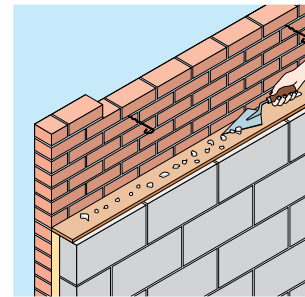
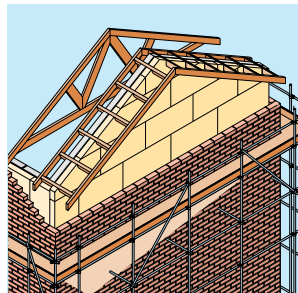

Figure 3
Figure 6
4. Before installation of each course of batts, excess mortar must be removed from the inside face of the leading leaf and mortar droppings cleaned from the exposed edges of the batts. This is made easier by the use of a cavity board (Figure 3). This sequence should be maintained progressively up to wallplate (or cavity tray) level. It is important that the insulation is carried to the highest level possible in either case (Figure 6).
9. Repeat this sequence to the top of the wall (see Figure 6). If not, protect the top of the batts with a cavity tray.